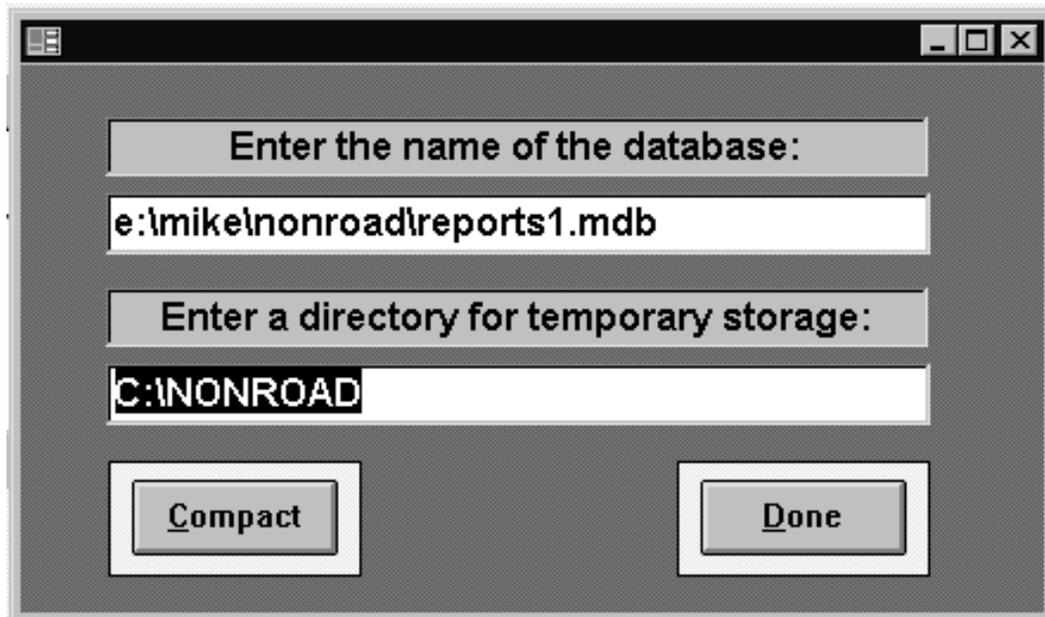

Figure 5-7: Identify a directory for temporary storage screen.
4. A screen will appear requesting you to enter a directory for temporary storage of the compacted database (Figure 5-7). With the mouse, click in the field below the words ENTER A DIRECTORY FOR TEMPORARY STORAGE and type in the appropriate directory and path.